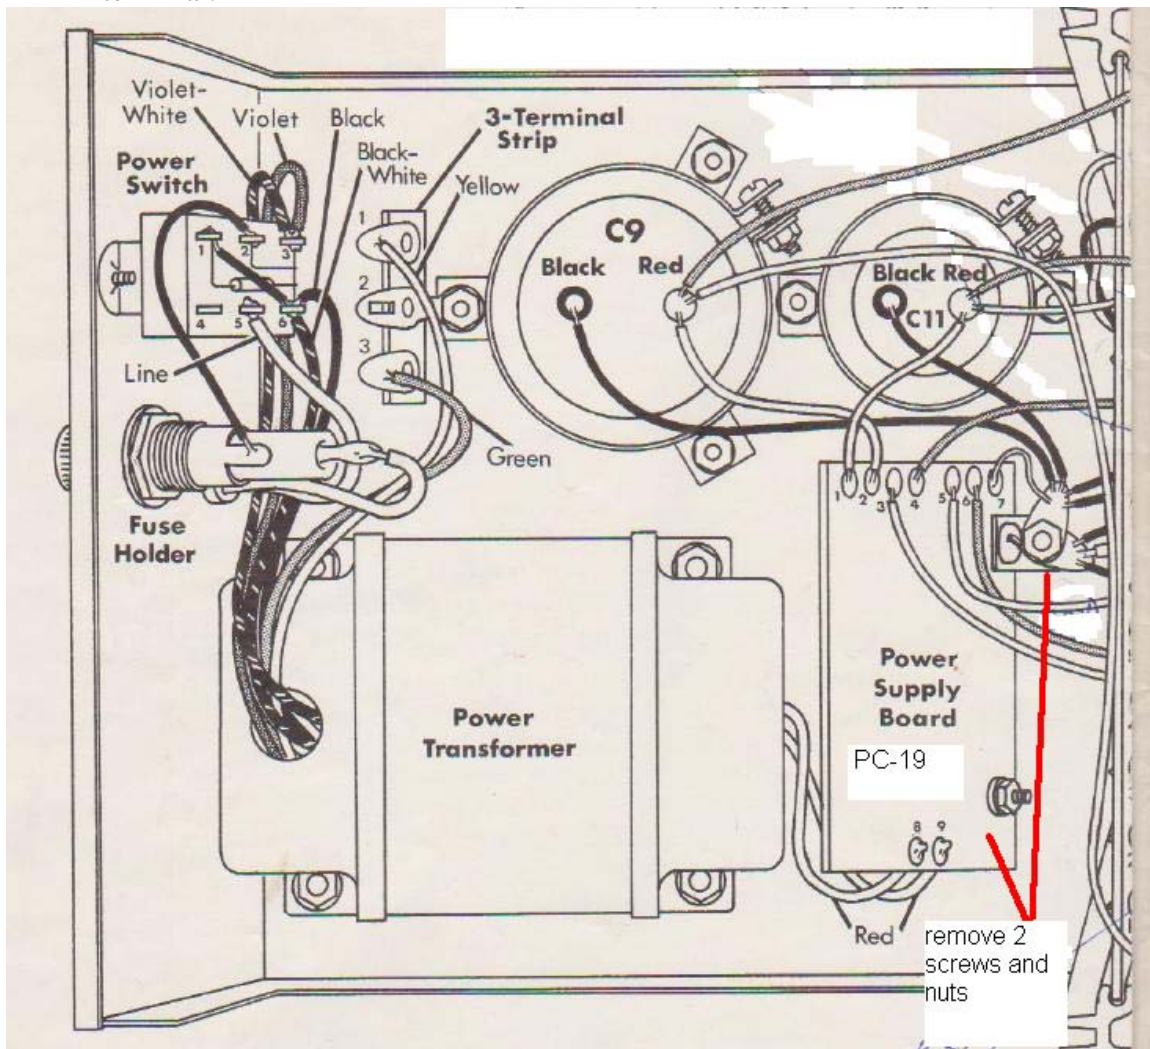

Figure 6-Removing the PC-19
3. Remove the two sets of screws and nuts that hold the PC-19 brackets to the bottom of the chassis. See Figure 6. That will make it easier to remove the wires as needed in the next steps.